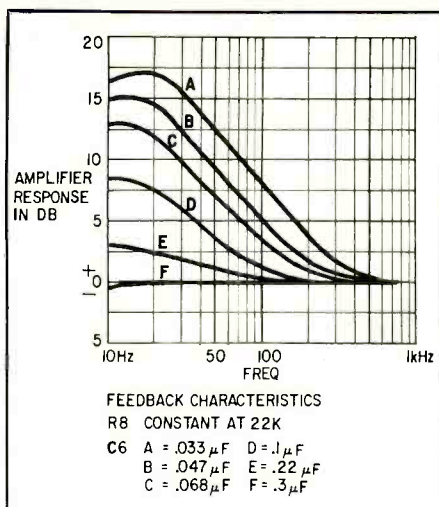

Fig. 4—Frequency response of FET preamp for various values of capacitor C6.
- C6—feedback capacitor—see text and Fig. 4.
- Q1—2N2498 (TI)
- Q2—2N930 (TI)
R8 and C6 in the schematic are feedback components. The value of R8 sets the total value of feedback voltage—the value given in Fig. 4 furnishing approximately 17 dB. The value of C6 determines the shaping of the feedback
frequency characteristics or, in other words, the output frequency response. Fig. 4 shows the effect of various values of C6 on this response. If you prefer a high bass boost, you will select a low value of C6—A, for instance. If you prefer a lower bass boost, you will select a higher value of C6—B through F.